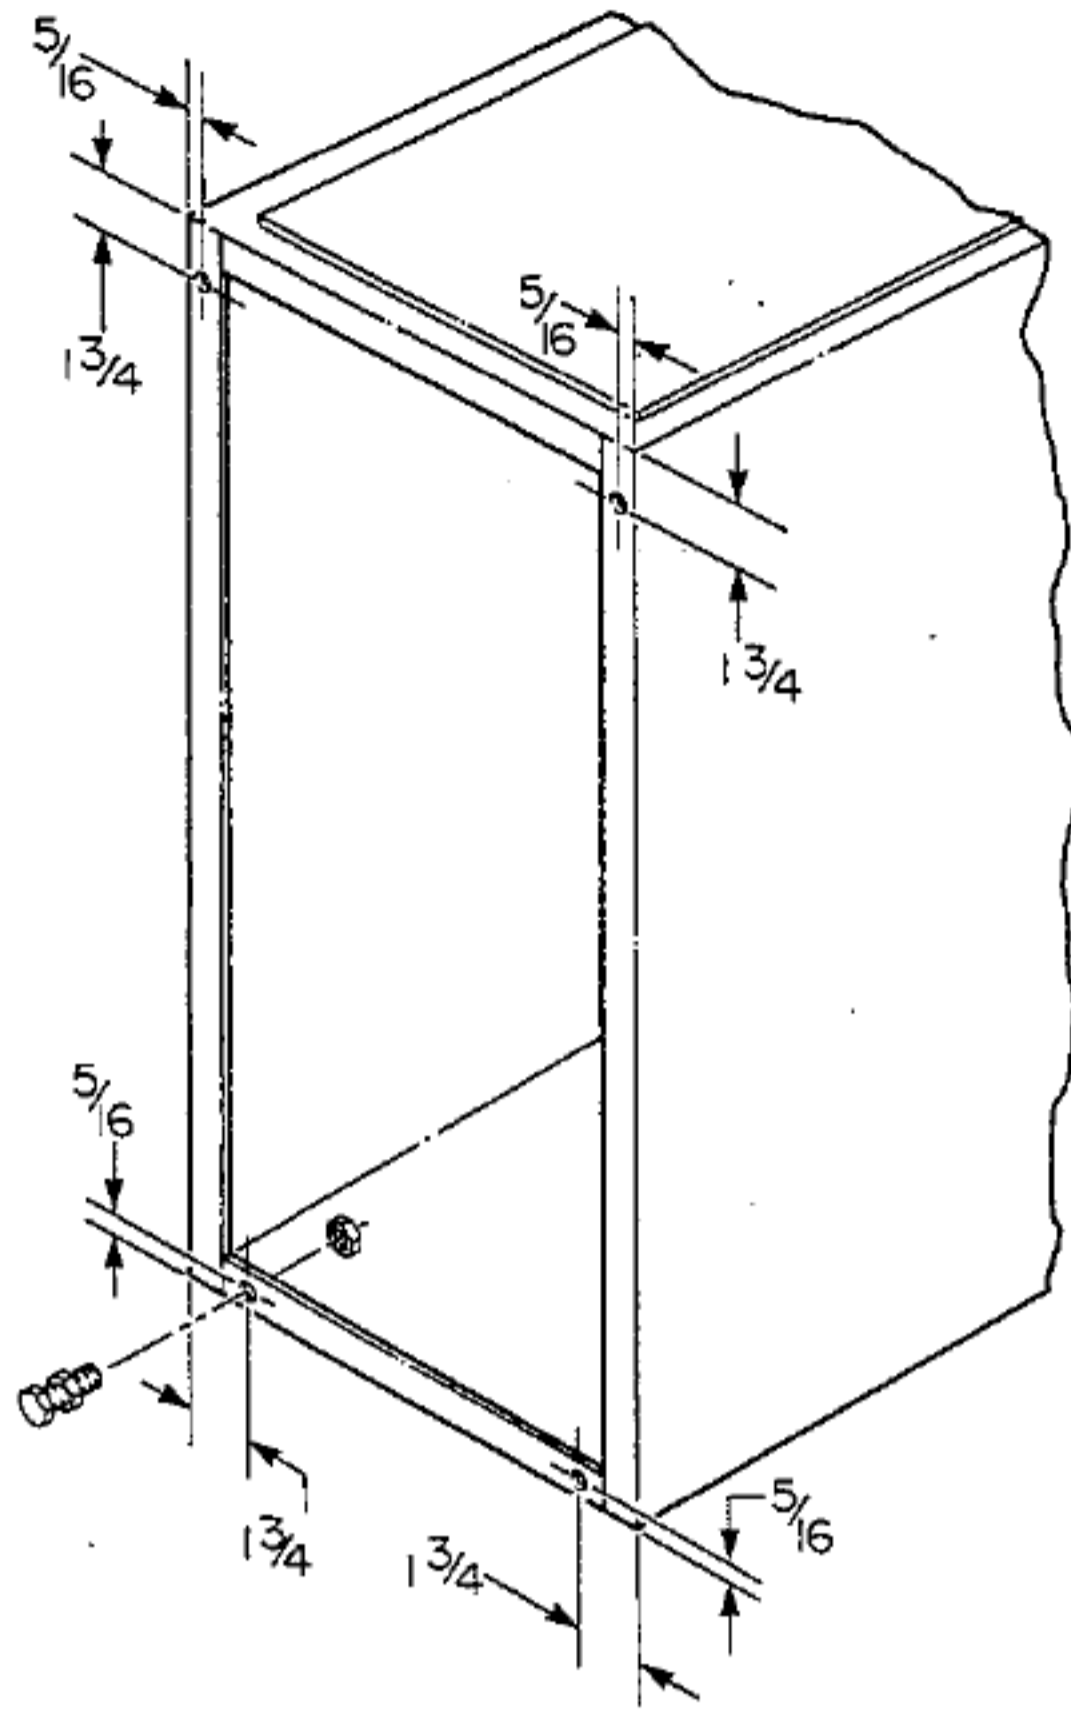

Fig. 6—Leveling Leg Installation
When the furnace is used with side inlet(s) and leveling legs are required, refer to Fig. 6 and install field-supplied, corrosion-resistant 5/16-in. machine bolts and nuts.
1. Lay furnace on its back. Locate and drill 5/16-in. diameter hole in each bottom corner of furnace as shown in Fig. 6.